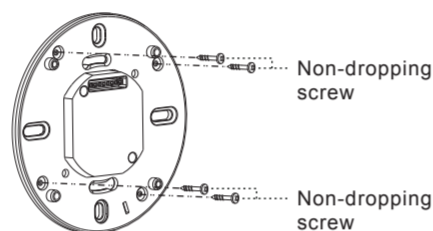

FIG.16
4.4.3.4 Insert 4pcs non-dropping screws to the corresponding screw holes on detector's fixing plate, and those 4pcs screws will not drop off to provide convenience to the subsequent installations (See FIG.16).